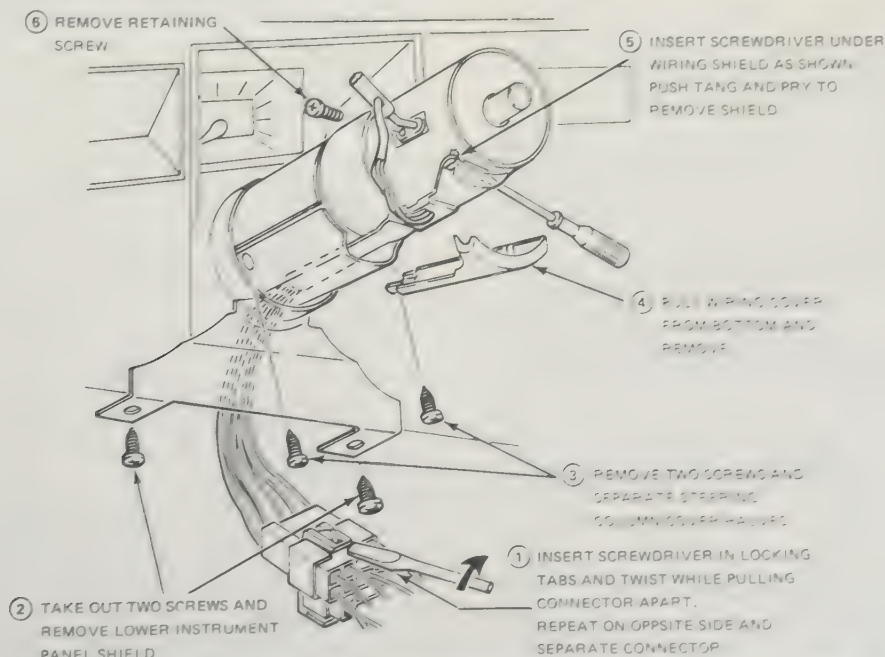

Fig. 10.23. Removal of steering column shrouds and later type turn signal/wiper arm (Sec. 29)
- 6 Remove the two screws securing the lower section of the instrument panel and lift away the panel (see Fig. 10.23).
- 8 Using a screwdriver as shown in Fig. 10.23 push in the retaining